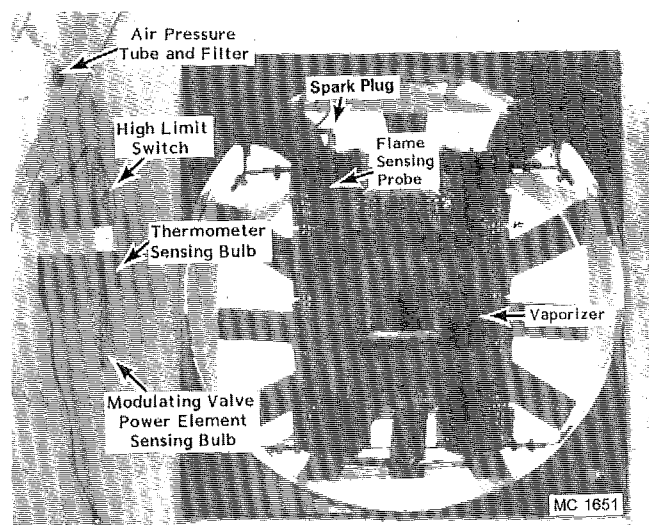

Figure 18 - 6 MBTU Burner - 620 & 820 Top
6. Remove the Air Pressure Switch Weather Cover and then the (2) wires from the air pressure switch power terminals. Check continuity of the (2) wires. If wires are okay, remove air pressure switch from tube and filter assembly. Check to be sure that the $\frac{1}{8}$ " (3.2mm.) vent hole in the bottom of switch is open. Then check for an obstruction in the air pressure tube and filter assembly. See Figure 18. Now replace air pressure switch, (2) wires, and weather cover that were removed above.